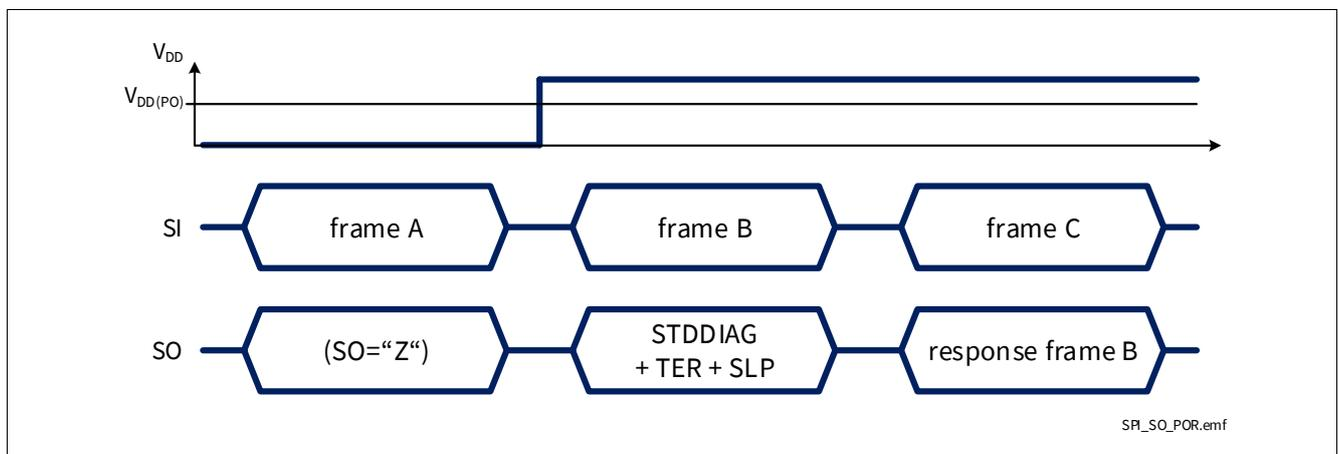

Figure 44 SPI response after coming out of Power-On reset at V_{DD}
- When BTS71040-4ESP digital supply comes out of Power-On reset condition, as shown in **Figure 44**